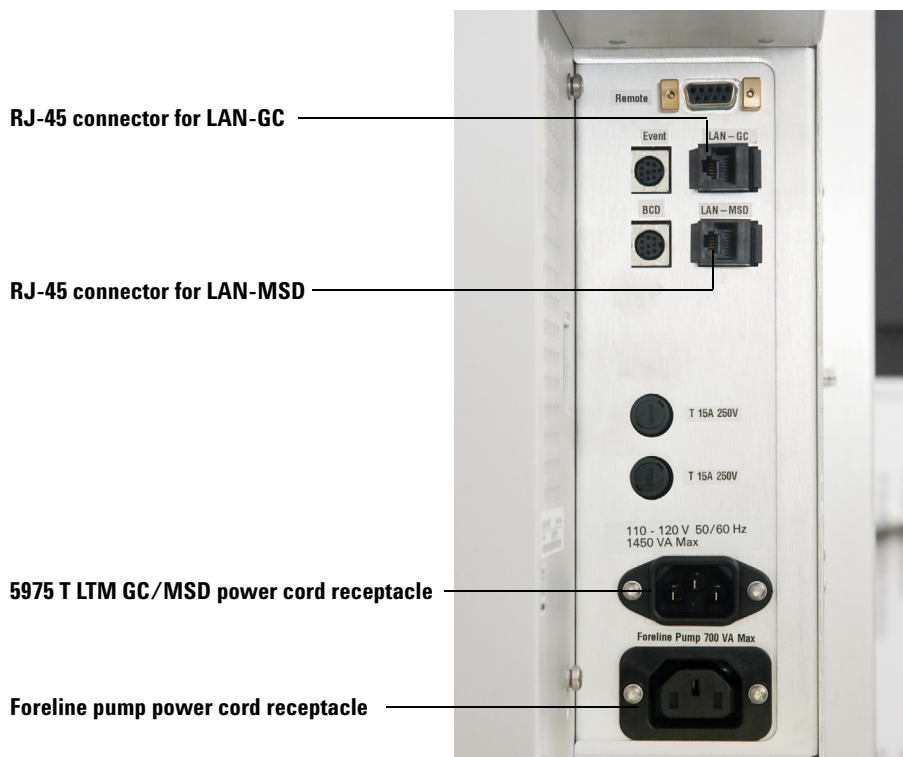

Figure 4 Connections on the side of the instrument
- 7 Connect the foreline pump power cord to the receptacle on the side of the MSD. See Figure 4.
- 5** Connect a shielded LAN cable between the RJ-45 LAN connector on the side of the instrument labeled LAN-MSD and connector #1 on the network switch. See Figure 4.
- 6** Connect a shielded LAN cable between the RJ-45 LAN connector on the side of the instrument labeled LAN-GC to connector #2 on the network switch. See Figure 4.